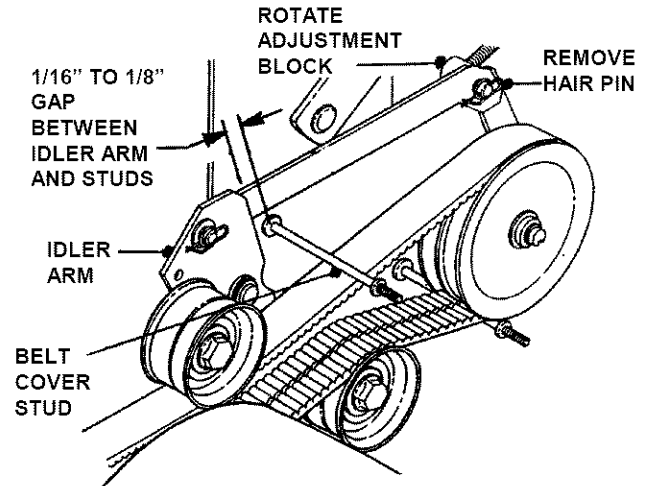

FIGURE 5.2
4. Remove the hairpins from the traction rod adjustment blocks and remove the adjustment blocks from the traction links on each side of the mower. See Figure 5.2.
5. Rotate the adjustment block as required to make the idler arms almost touch against the belt cover studs when the Traction Levers are locked. There should be about 1/16" to 1/8" gap between the idler arms and studs. See Figure 5.2